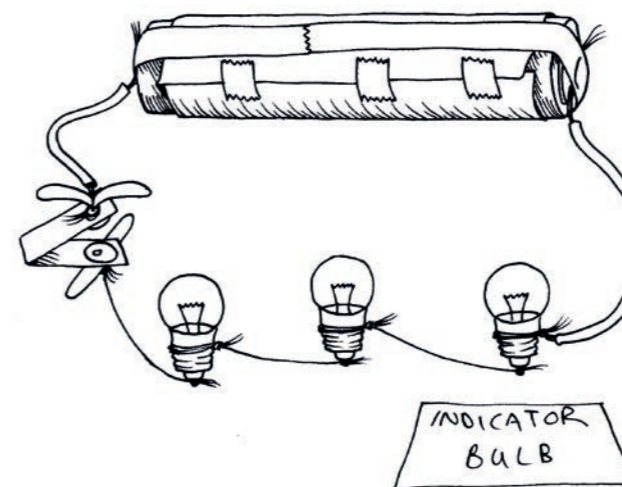

Figure 5
4. Connect a third bulb to the circuit as shown in Figure 5.
When we connect bulbs with only one path for the current, as in Figure 5, we say that the bulbs are connected “in series”. The current must go through each bulb in the row.